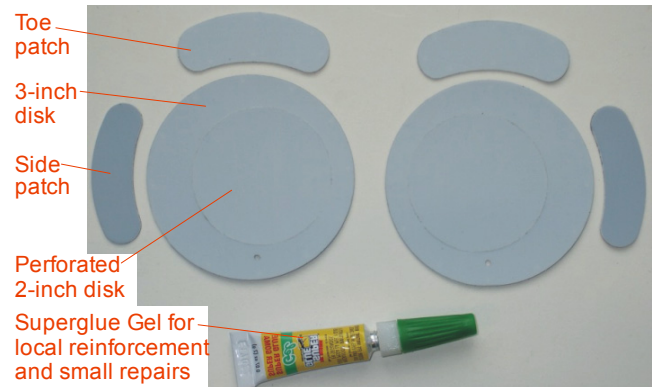

Fig. 1: All components of the LOFRI-04 friction-reducing sole kit
2. Familiarize yourself with the components in Fig. 1.